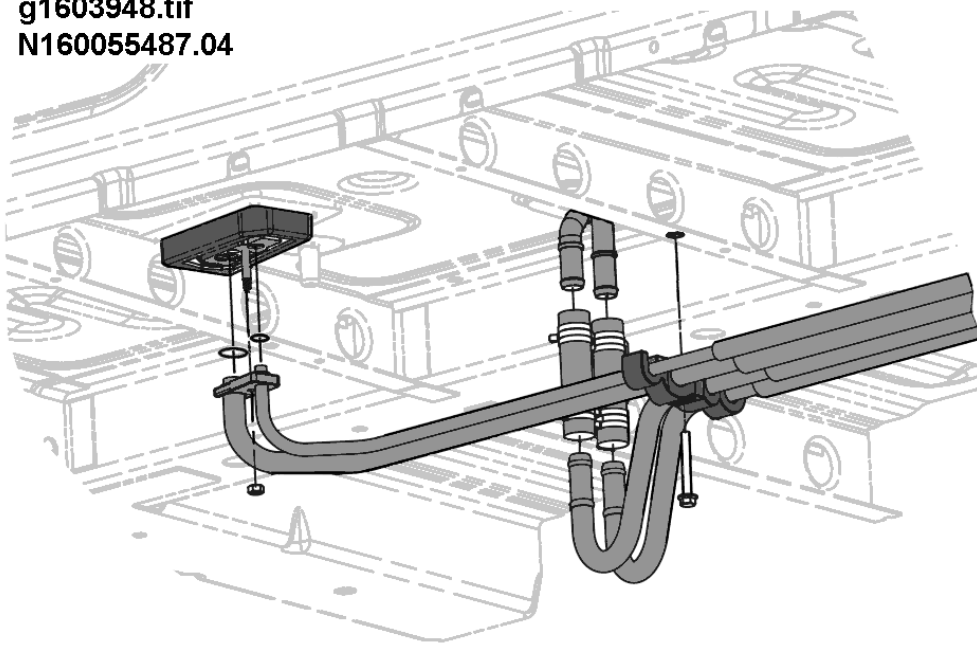

Figure 54 Rear A/C and Heater Line Connections
3. Disconnect the rubber hoses from the heater core tubes (Figure 54). Allow coolant from heater core to drain into container.
5. Under the cab, connect the heater core inlet/outlet hoses to the heater core tubes. Install or tighten the rear AC/heater line hanger (Figure 54) if removed earlier.
3. With a clean drain pan positioned under the heater core connections, disconnect the hoses from the heater core tubes (Figure 54). Plug all open tubes/hoses.
9. Under the vehicle, connect the heater core inlet/outlet hoses to the heater core tubes. Install or tighten the rear AC/heater line hanger, if removed earlier (Figure 54).